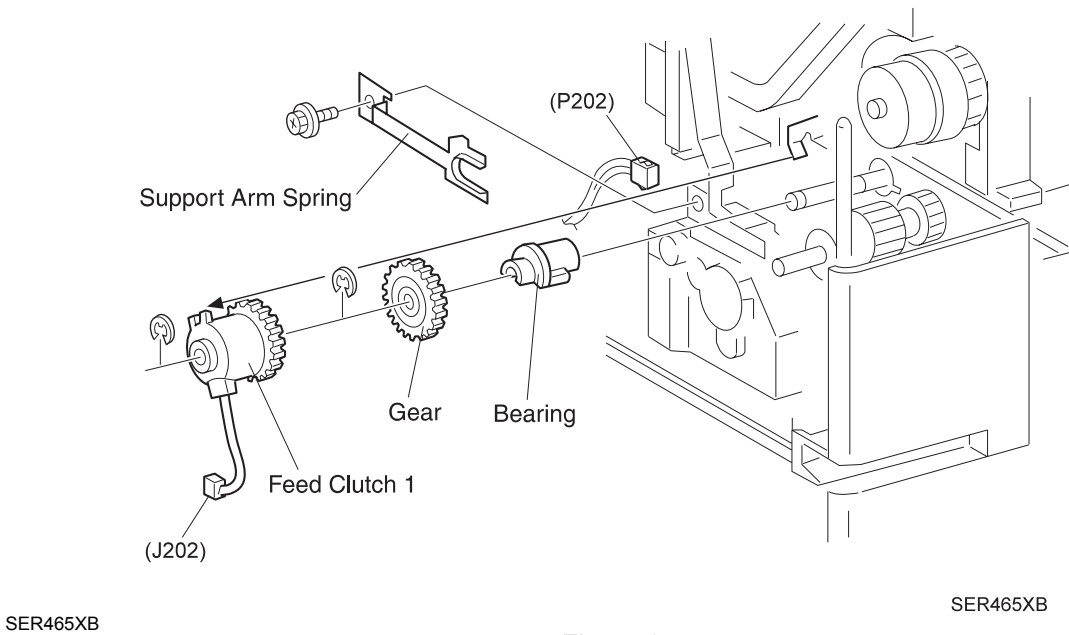

Figure 1
10. Reinstall the retaining clip that is located under the Option Connector Bracket, and use one screw to secure the clip (Figure 1).